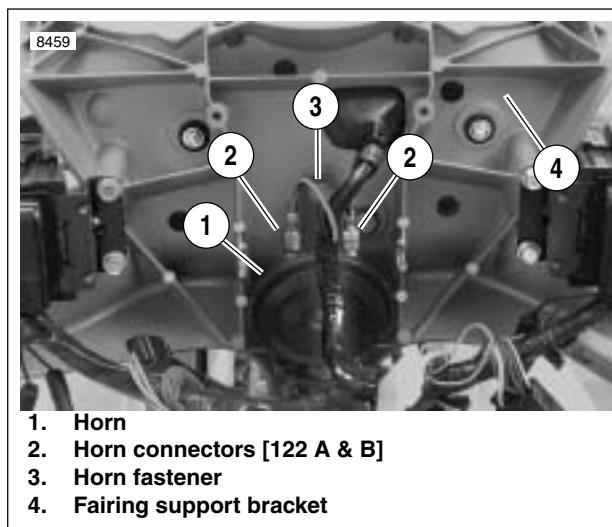
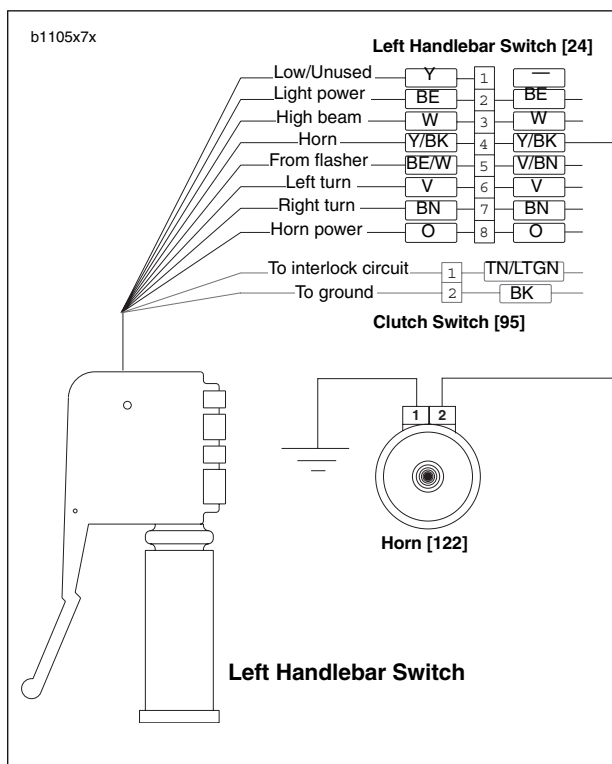

Figure 7-68. Horn Assembly
Figure 7-69. Horn Wiring
4. See Figure 7-68. Remove fastener (3).
5. Remove horn (1) from fairing support bracket (4).
6. See Figure 7-69. Detach Y/BK power wire and BK ground wire from terminal clips on horn.
1. See Figure 7-69. Connect Y/BK power wire and BK ground wire to terminal clips on horn.
2. See Figure 7-68. Attach horn (1) to fairing support bracket (4) using fastener (3). Tighten to 72-96 **in-lbs** (8.1-10.8 Nm).
- a. See Figure 7-69. Remove Y/BK power and BK ground wires from terminal clips.